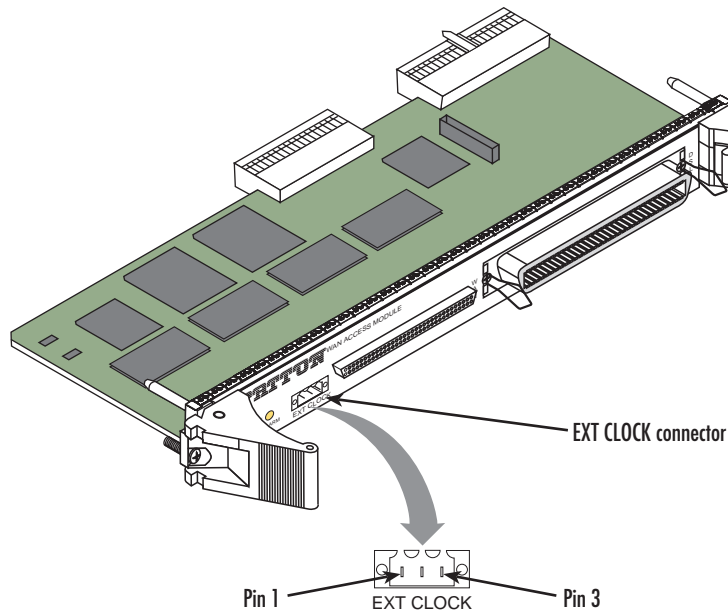

Figure 13. EXT CLOCK connector location
Note To synchronize the ForeFront system with a BITS clock, you must connect the site BITS clock system to the *EXT CLOCK* connector located on the rear-panel of the T-DAC WAN Access Module rear card (see figure 13).
1. The *EXT CLOCK* connector is a 3-pin terminal block connector (see figure 13). As you face the rear-panel, pin 1 is located at the top (vertical card orientation) or left (horizontal card orientation). Table 6 lists the connector pinout.